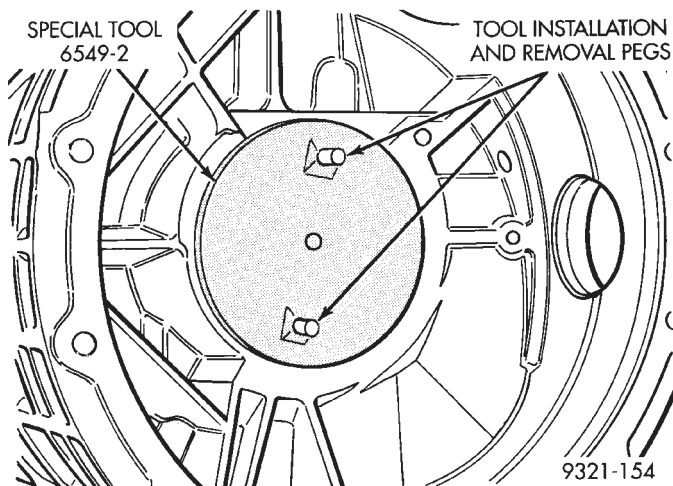

Fig. 251 Installing Centering Block
(2) Install centering block (special tool 6549-2) into the transaxle case (Fig. 251). Screw centering block into inner adjuster hole of case until it bottoms. The pegs on the special tool are only used for installation. Orientation with in the case is not required.